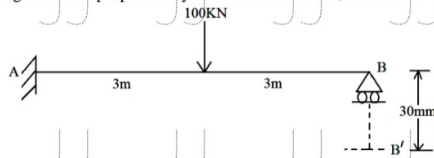

Figure: 4
5. Determine the prop reaction and the deflection at mid-span of a propped cantilever beam shown in figure 4. The prop sinks by 30mm. Take $EI = 15,000 \text{ kNm}^2$. [15]